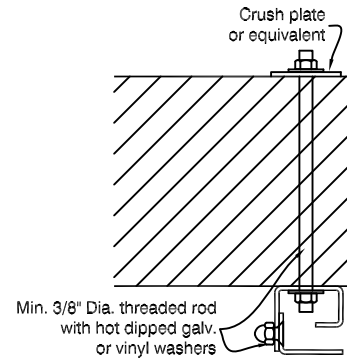

Fig. 4
**b.** When fastening through a wall to masonry (brick, block or concrete) drill holes completely through the wall with a 1/2" dia. masonry drill. Fasten with a minimum 3/8" dia. threaded rod, as shown in Fig. 4.